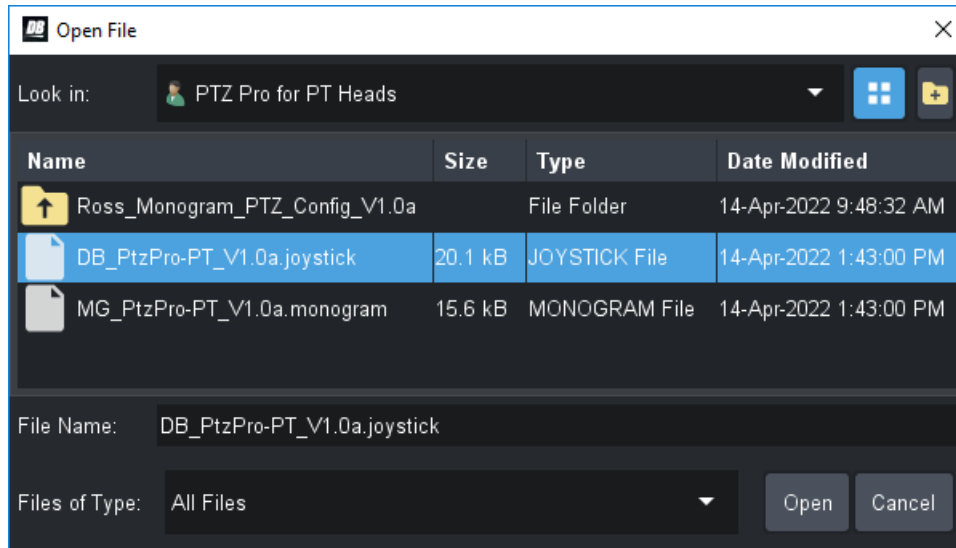

Figure 39 - Selecting and Opening a .joystick File for Controlling PT Heads using the PTZ PRO Package
6. Select the **.joystick** file and then select **Open** (Figure 39).